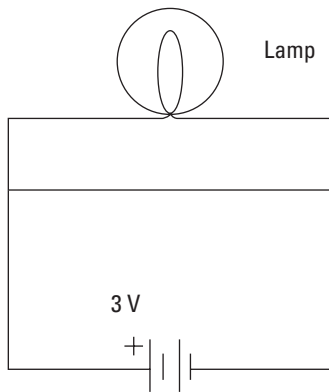

Figure 1-2:
- ◆ *Short circuit* refers to a circuit that does not have a load. For example, Figure 1-2 shows a short circuit; the lamp is connected to the circuit but a direct connection is present between the battery's negative terminal and its positive terminal, too.
The short circuit shown in Figure 1-2 illustrates an important point about electrical circuits: it is possible — common, even — for a circuit to have multiple pathways for current to flow. In Figure 1-2, the current can flow through the lamp as well as through the path that connects the two battery terminals directly.
Current flows everywhere it can. If your circuit has two pathways through which current can flow, the current doesn't choose one over the other; it chooses both. However, not all paths are equal, so current doesn't flow equally through all paths. For example, in the circuit shown in Figure 1-2, current will flow much more easily through the short circuit than it will through the lamp. Thus, the lamp will not glow because nearly all of the current will bypass the lamp in favor of the easier route through the short circuit. Even so, a small amount of current will flow through the lamp.